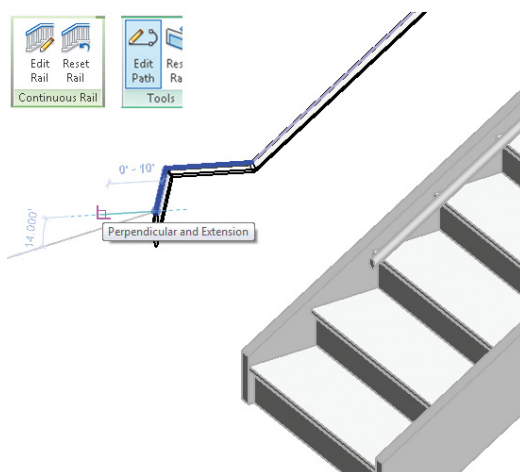

FIGURE 4.32 Editing the top rail
4. Then sketch any desired shape at either the start or end of the railing, as shown in Figure 4.32. When that's complete, click the green check to finish editing.